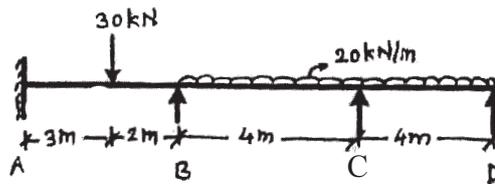

Fig. 1
- Q1)** Analyse the continuous beam ABCD loaded as shown in Figure 1 by Slope Deflection Method if the support 'B' sinks by 5 mm. Take $E = 2 \times 10^5$ N/mm² and $I = 1600$ cm⁴. Draw B.M.D. showing all salient points. [16]